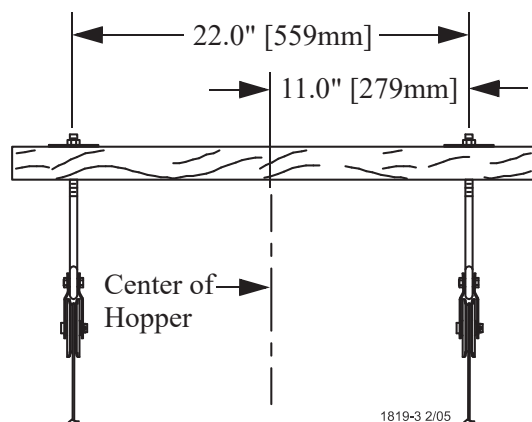

Figure 9. Plastic Hopper Suspension
- When steel hoppers with center suspension are used, see figure 8., the feeder line must be supported within 1' [30 cm] of the feed hopper. When plastic hoppers are installed only 2 point suspension can be used, (See **Figure 9.**), this does not require additional supports. See **“Hopper Assembly Procedure” on page 16** for plastic hopper suspension. This is in addition to the required Feeder Hopper suspension. After determining the type of suspension system required, decide where the Feeder Line is to be installed. Mark a straight line on the ceiling or rafters the full length of the Feeder Line. Use a string, chalk line, or the winch cable, temporarily attached with staples, to mark the line. Center the line directly over where the Feeder Line is to be installed.